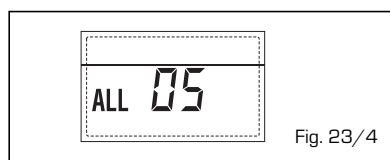

Fig. 23/4
- BLOCCO FIAMMA "ALL 06" (fig. 23/5)